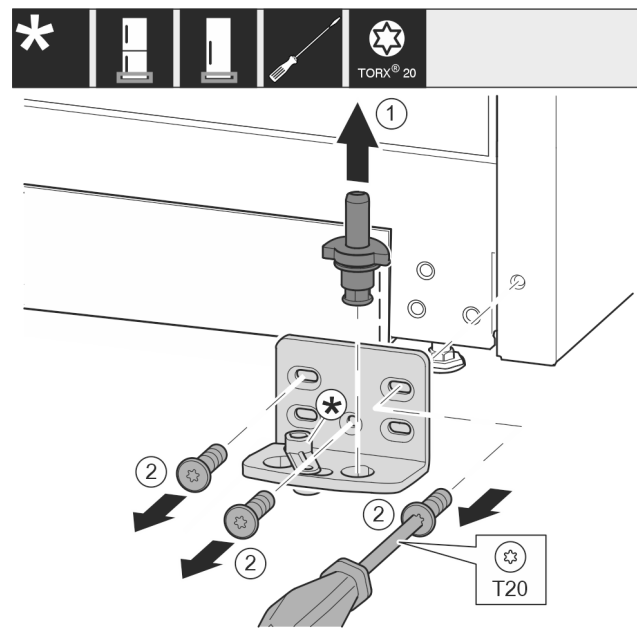

Fig. 22
- Lift the bearing pin completely upward and pull it out. Fig. 22 (1)
- Take out the screws with a T20 screwdriver and take off the bearing bracket. Fig. 22 (2)